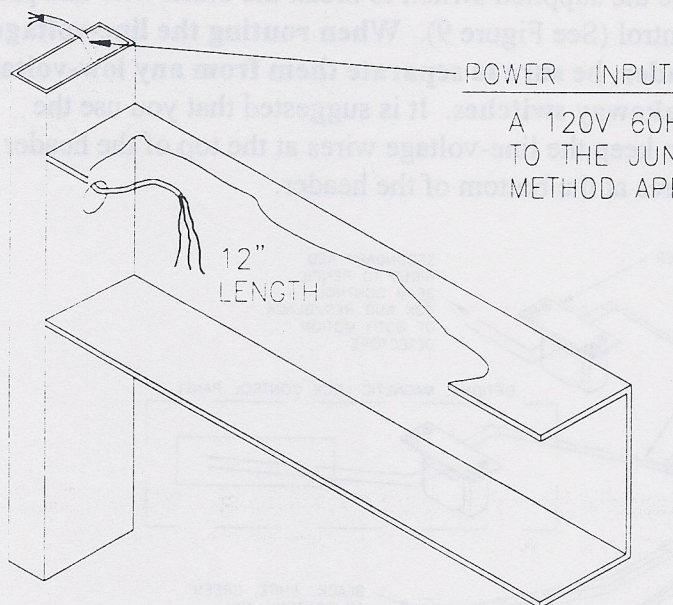

Figure 8: Bringing the power lines into the header.
9. Raise the frame assembly into position and feed the main electrical supply wires and conduit through the pre-drilled 1" access hole in the side of the jamb. Be sure that the access cover is on the inside of the building so that the doors can break away toward the outside in case of an emergency (See Figure 8).